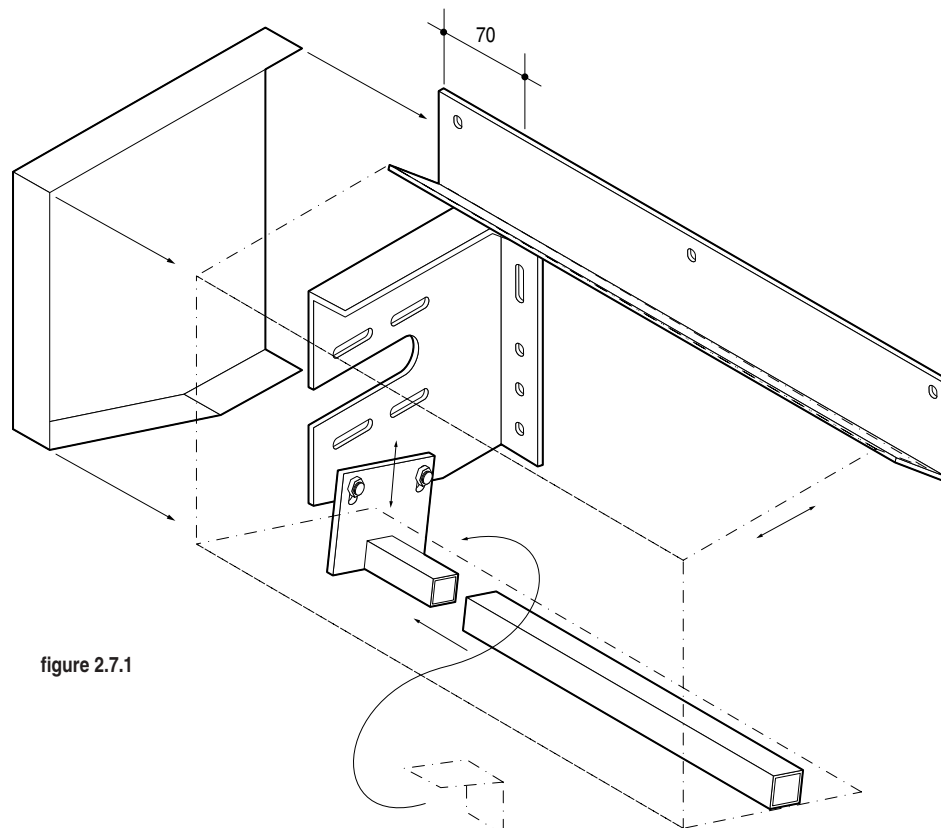

figure 2.7.1
- 1 place the reception profile on the consoles and secure it on the assembly surface above the console (see fig. 2.7.1).